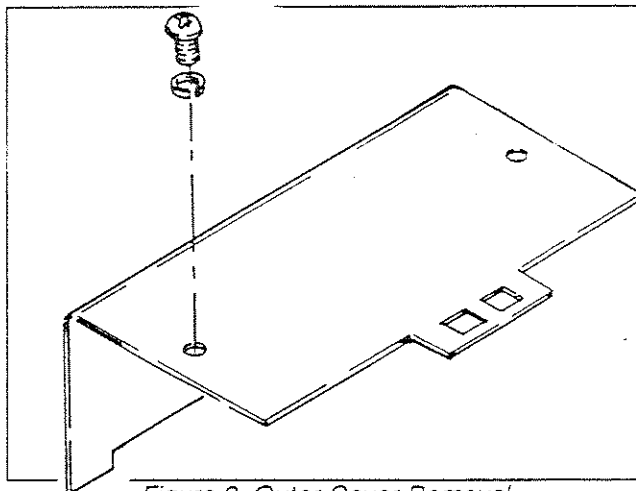

Figure 2. Outer Cover Removal
1. Remove two (2) screws that retain the outer cover to the transfer mechanism (Figure 2).